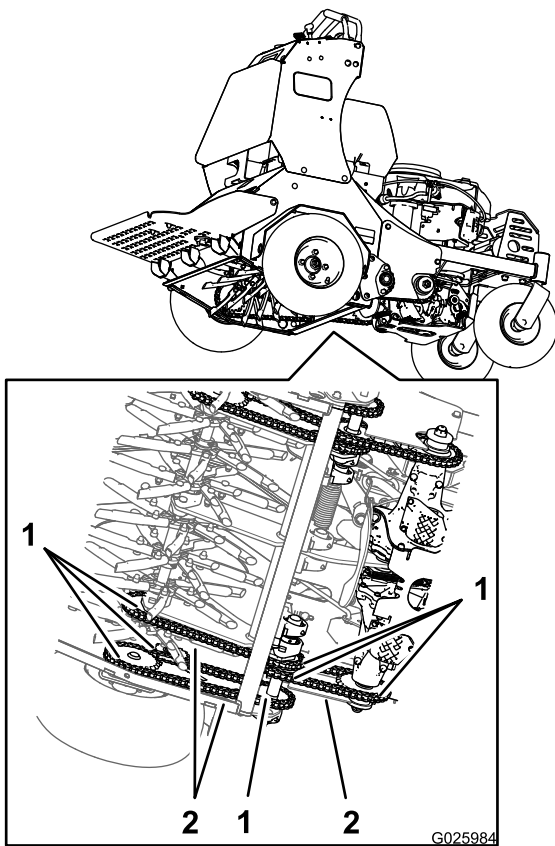

Figure 14
2. Inspect sprockets for wear and replace as required (Figure 14).
2. Check the chain tension (Figure 14) at both sides of the machine.
5. With the engine running, slowly move the traction-control levers forward and lubricate all 6 chains (Figure 14).